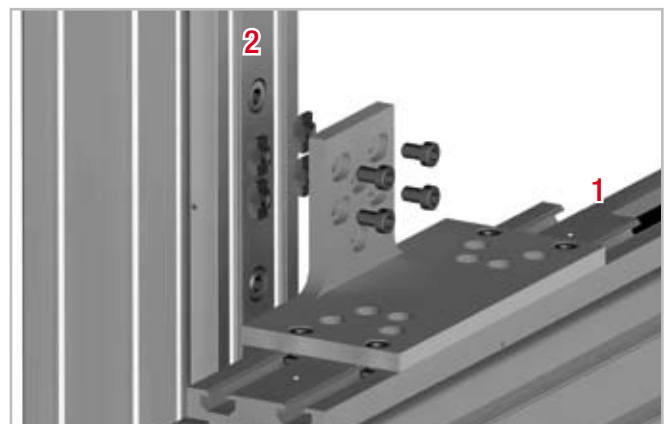

Fig. 73
4. To fix the connection plate to unit 2, introduce the screws into the prepared holes on the short plate side (see fig. 73).